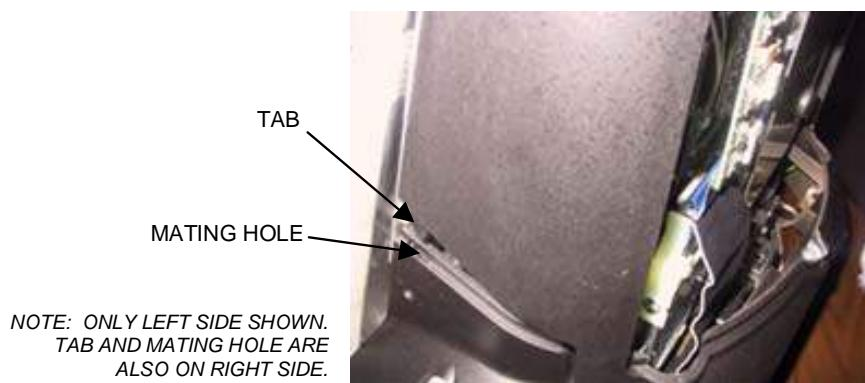

FIGURE 13 - SIDE VIEW OF GAME
8. Reconnect the ground wire to the rear cover and lower the cover into place, carefully lining up the 2 tabs on the cover with the 2 mating holes on the sides of the game (see Figure 13). Make sure that the plastic lip on the bottom of the rear cover is behind the metal base.